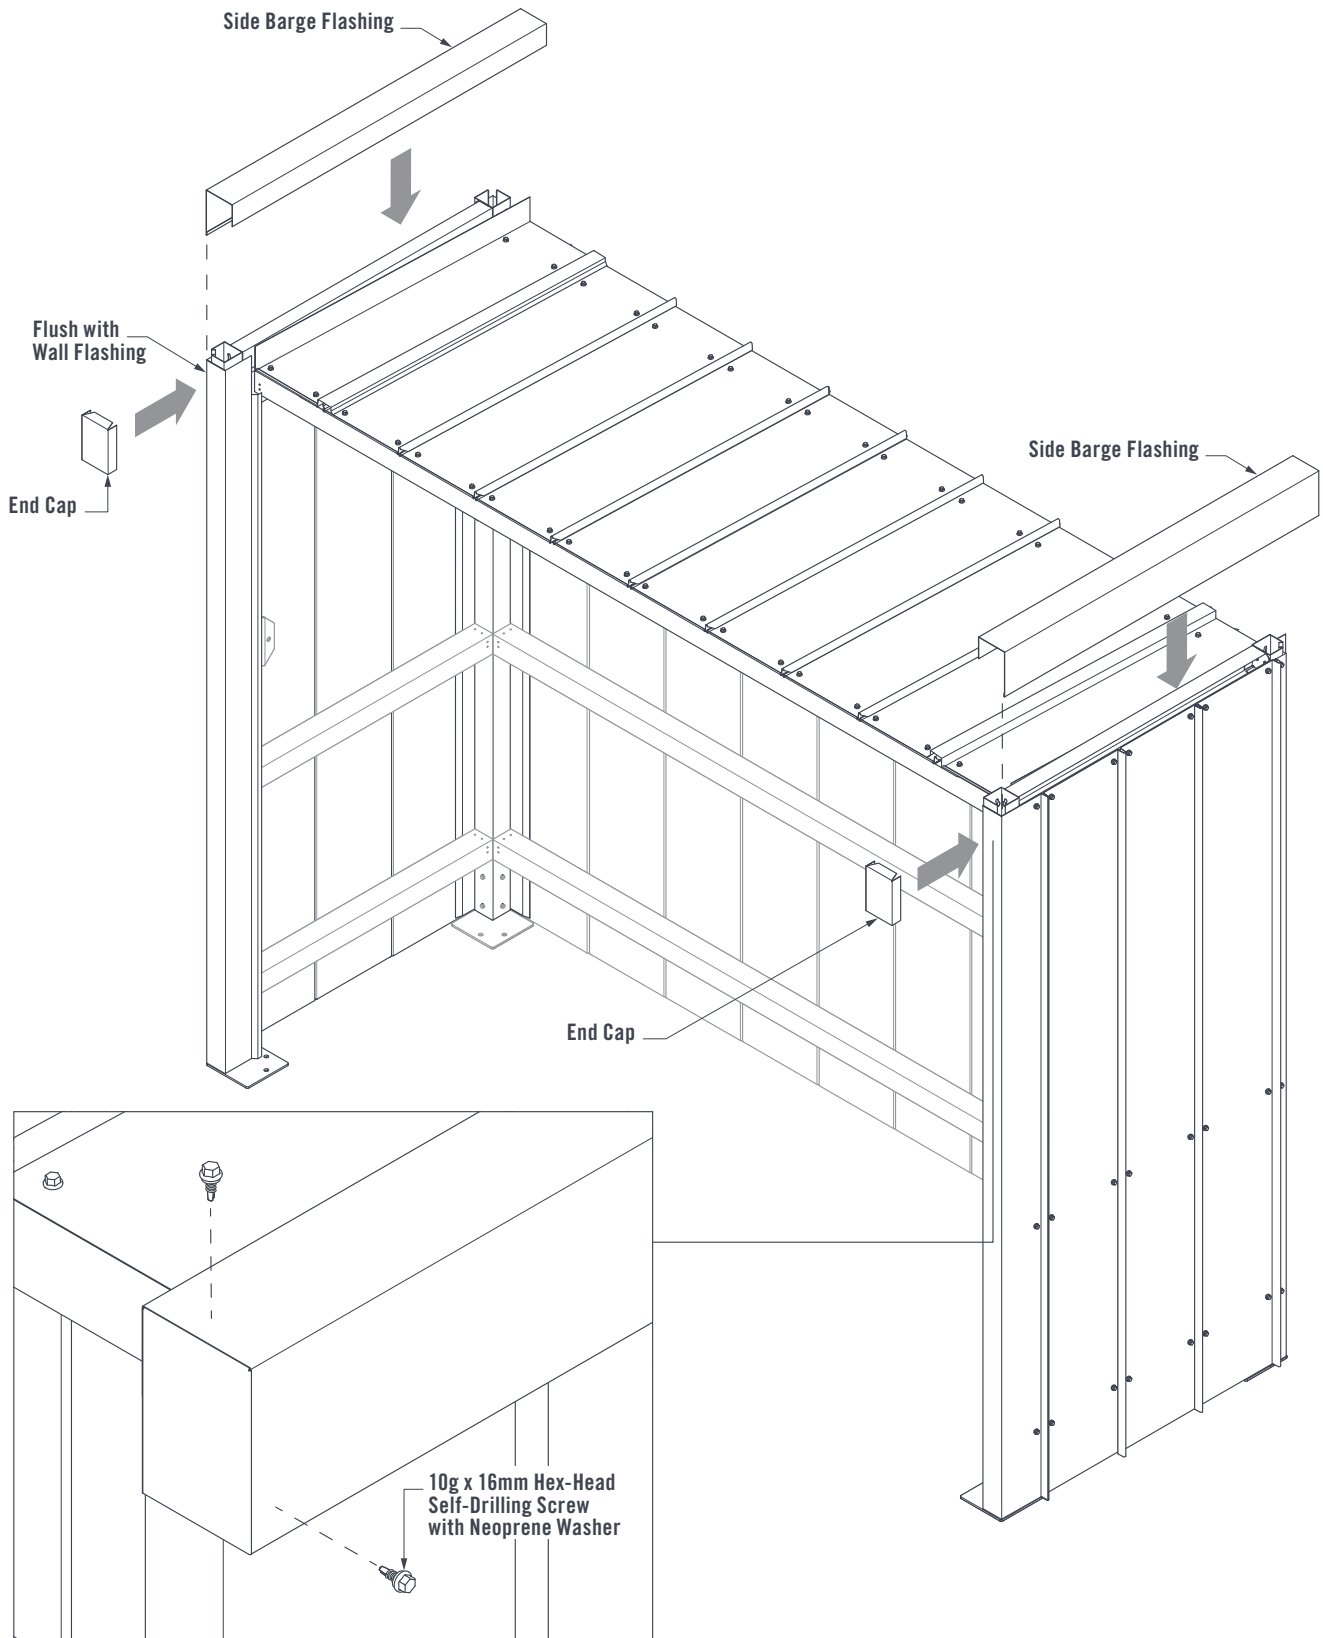
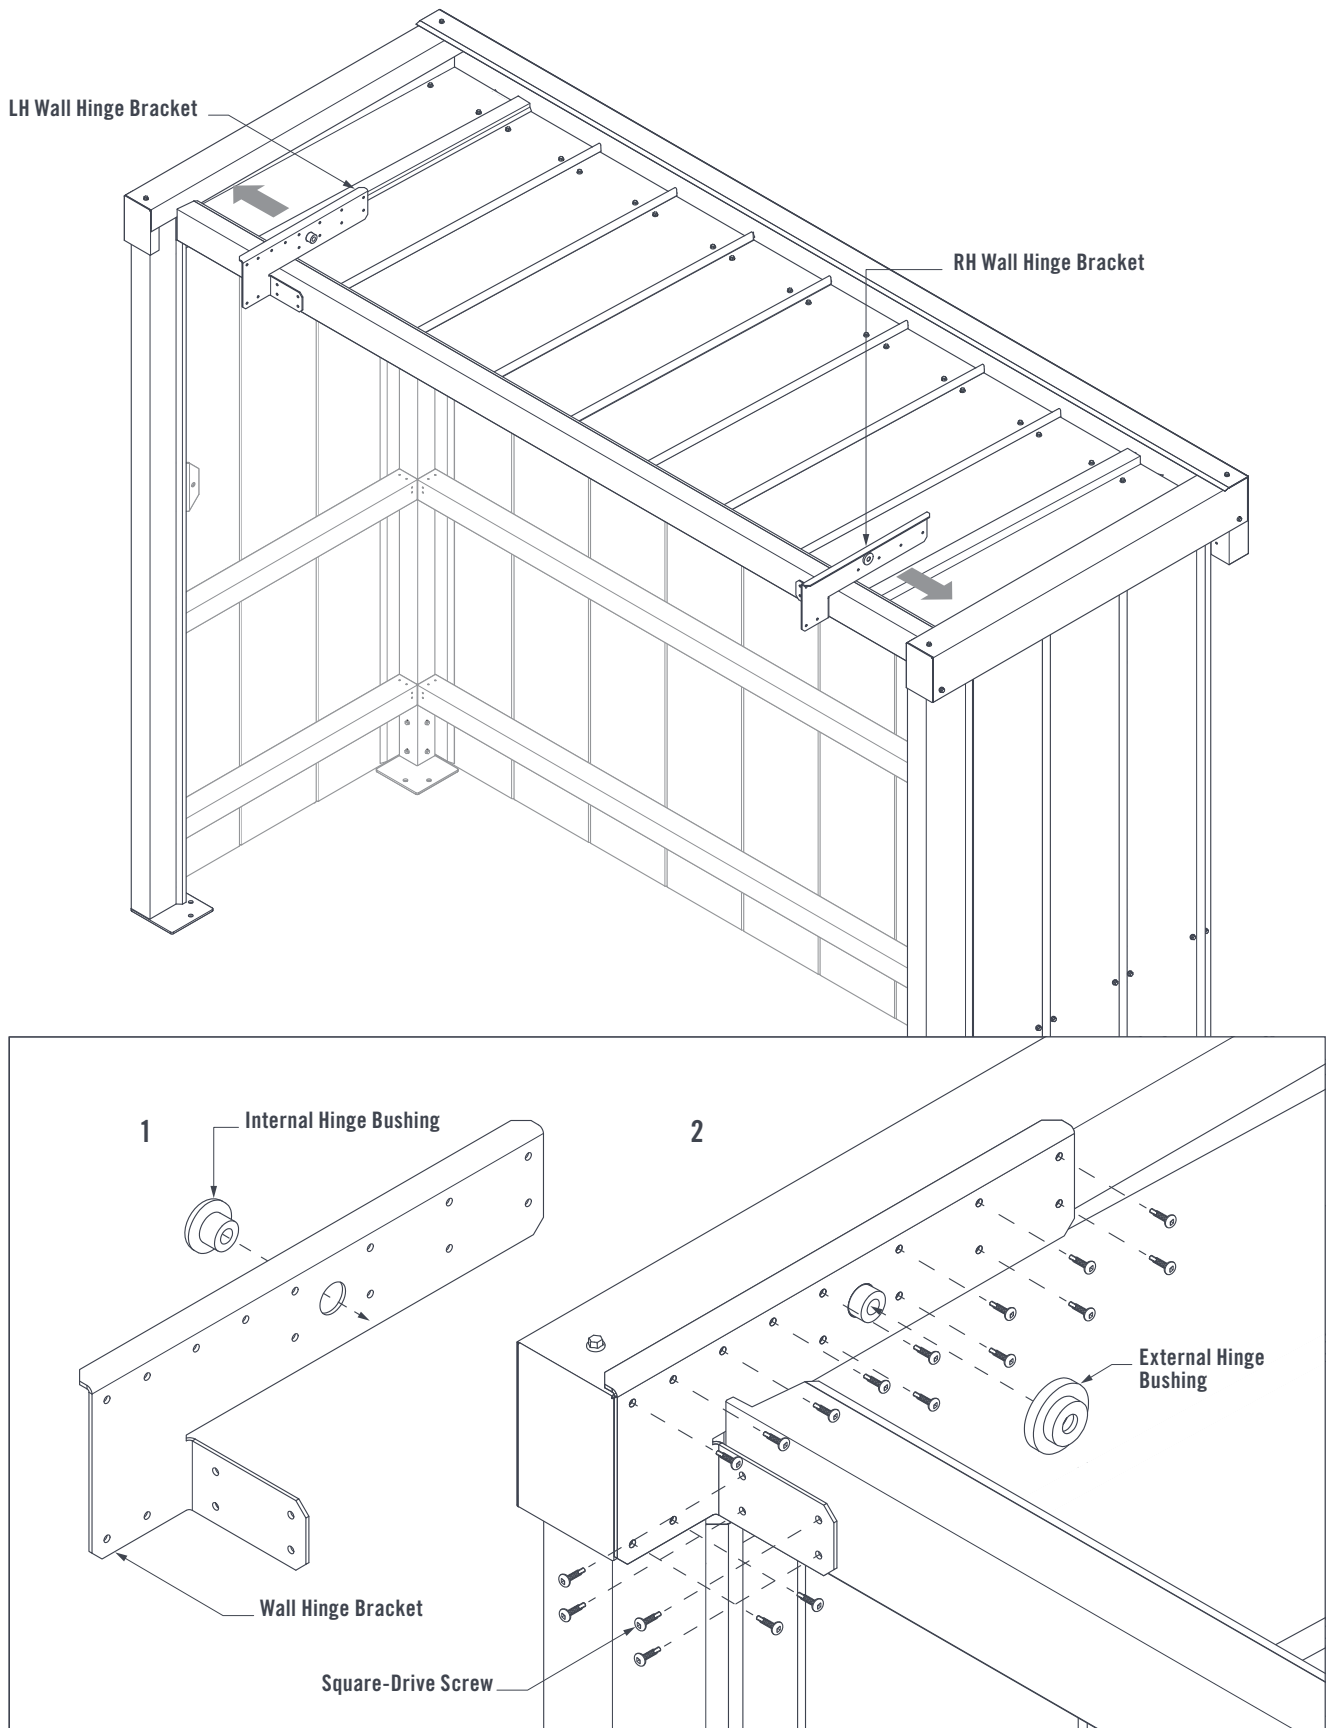

FIGURE 7.0
FIGURE 9.4
Fit the two Side Barge Flashings to the Unit so that they are flush with the Front Wall Flashings. Fit the End Caps into the Side Barge Flashings. Fasten the End Caps to the Side Barge Flashings using two 10Gx16mm Hex-Head Self-Drilling Screws with Neoprene Washers (Figure 7.0). The Side Barge Flashings are fixed to the Unit when the Hinges are installed in Figure 9.4.
1) Fit an Internal Hinge Bushing into the LH and RH Wall Hinge Brackets. 2) Fit the Wall Hinge Brackets to the Unit. Fasten the Wall Hinge Brackets to the Frame Assembly using eighteen Square-Drive Screws through the pilot holes. Fit an External Hinge Bushing onto both Internal Hinge Bushings (Figure 9.4).